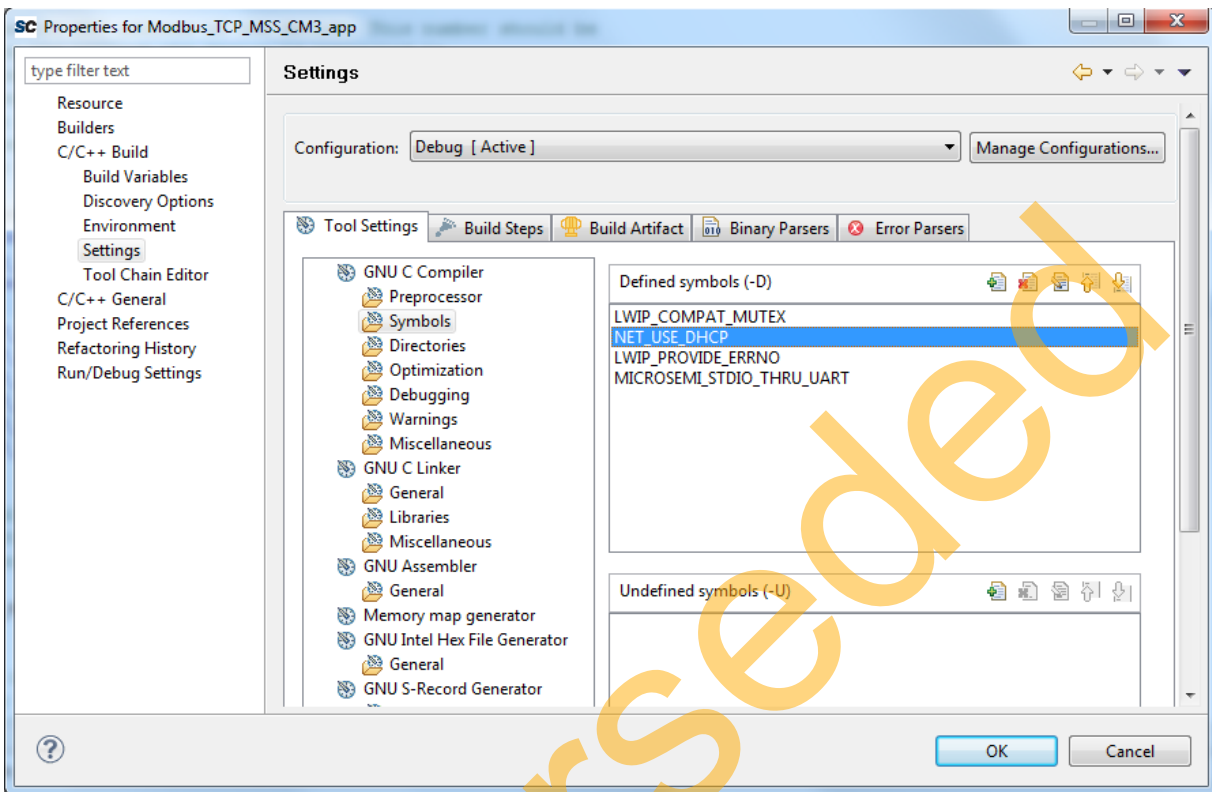

Figure 21 • Project Explorer Properties Window
2. Remove the symbol **NET_USE_DHCP** in **Tool Settings** of the **Properties for Modbus_TCP_CM3** window. Figure 21 shows the **Properties for Modbus_TCP_CM3** window.